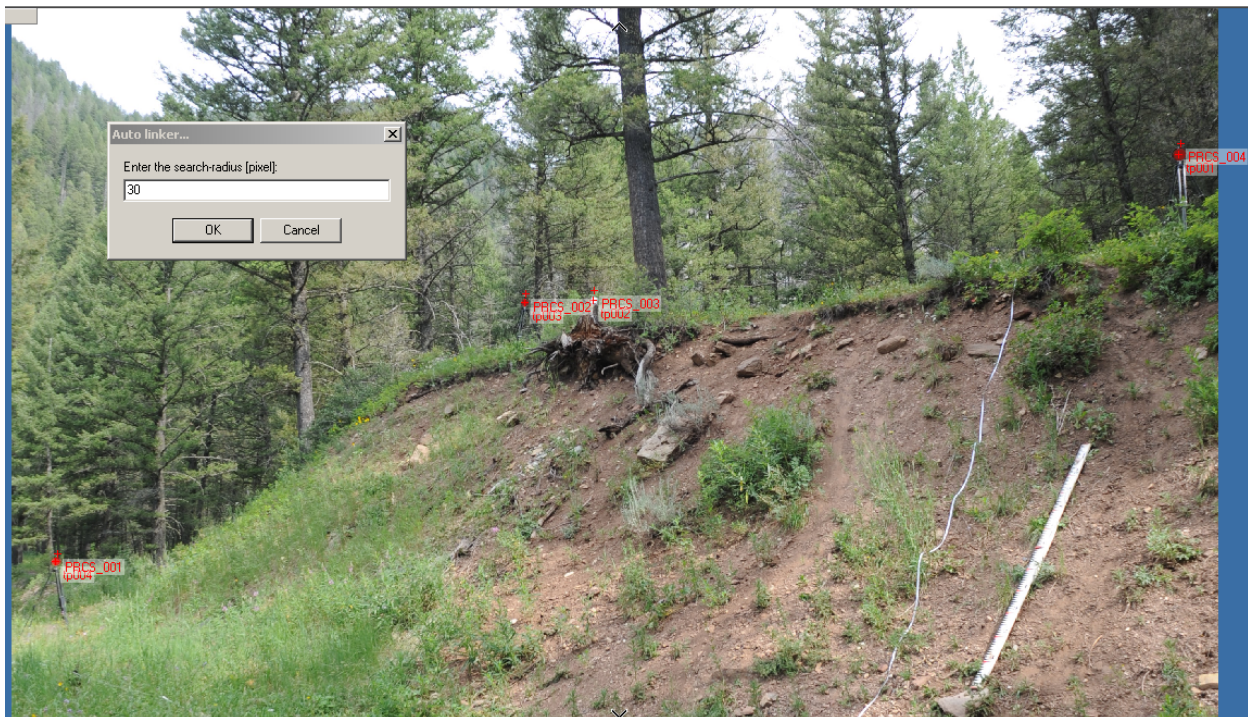

Figure 3. Linking two points using Auto Linker. Select an appropriate search radius and the points should turn from blue to red when linked.
- 5. Auto Link:** next, link the two points once all tie points have been labeled in the image. Right click anywhere on the image and select “Auto Linker”. You will then be prompted to choose a pixel search radius for the software (Fig. 3). If the range is too small, the points will not link. A good search range is between 10-120 pixels. There may be cases where you’ll need to enlarge the search radius to link the points. When linked, the two points will turn from blue to red (Fig. 3).